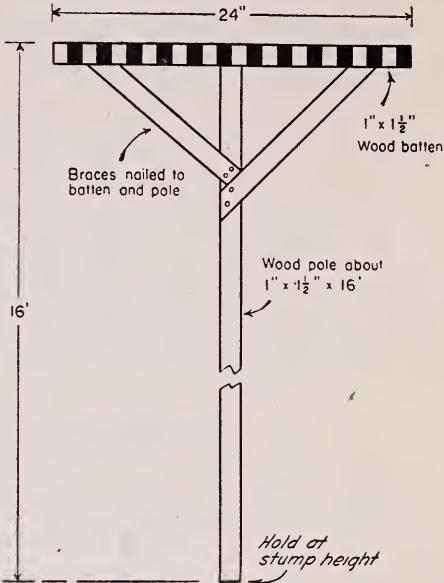

FIGURE 19.—A home-made height scale. (Crosspiece is optional and used to estimate the diameter at the top of the first 16-foot log.)
2. Look at the tree and decide how many 16-foot logs it contains. This takes practice. A helpful home-made device is shown in figure 19.